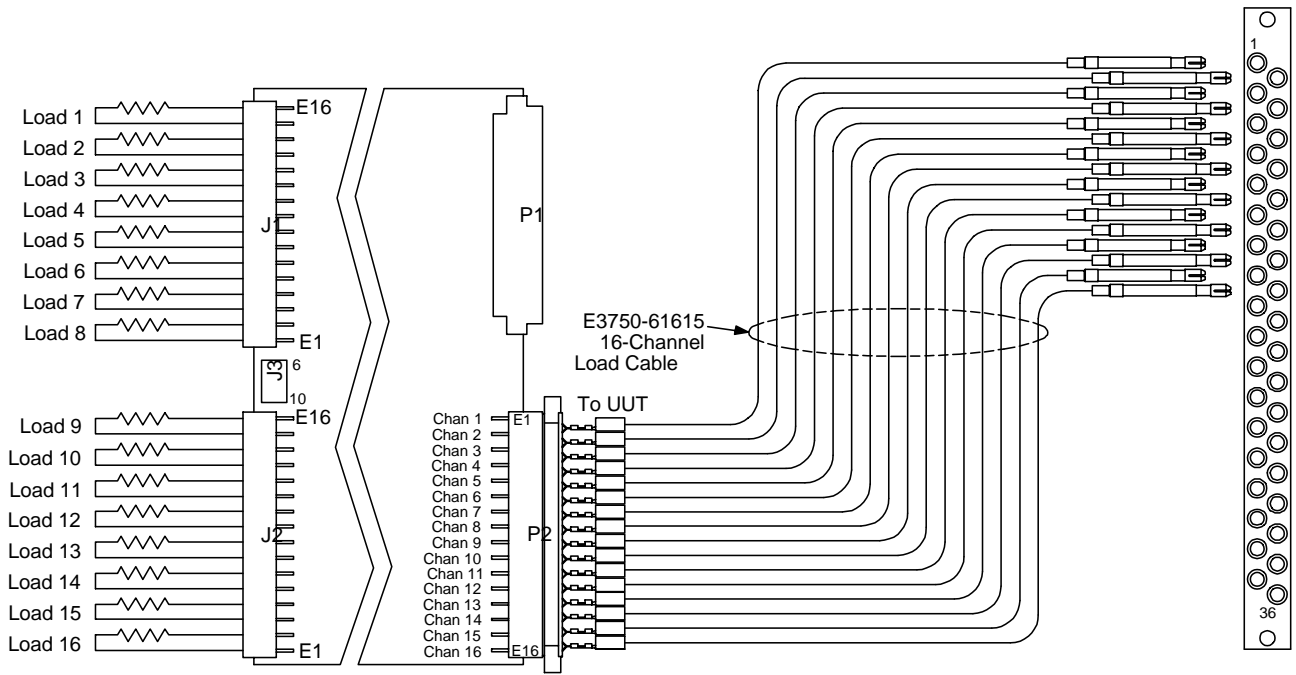

Figure 2-10. Agilent E6176A 16-Channel Load Card Cabling to High Power ICA Fixture Block
16-Channel cards If there are no 24-Channel load cards, start in slot 13 (or 21) of the mass interconnect. Otherwise, starting immediately to the left of the last Agilent 09420-20074 load block. Install one Agilent 09420-20003 Coax connector block for every two (2) 16-channel load cards. Starting with pin one, load the 16-channels in channel number order. See Figure 2-10. The second 16-channel card uses pins 17 – 32. Leave the last four holes in the Agilent 09420-20074 Coax connector block unused. The third and fourth 16-Channel cards use a second Agilent 09420-20074 Coax connector block, etc.